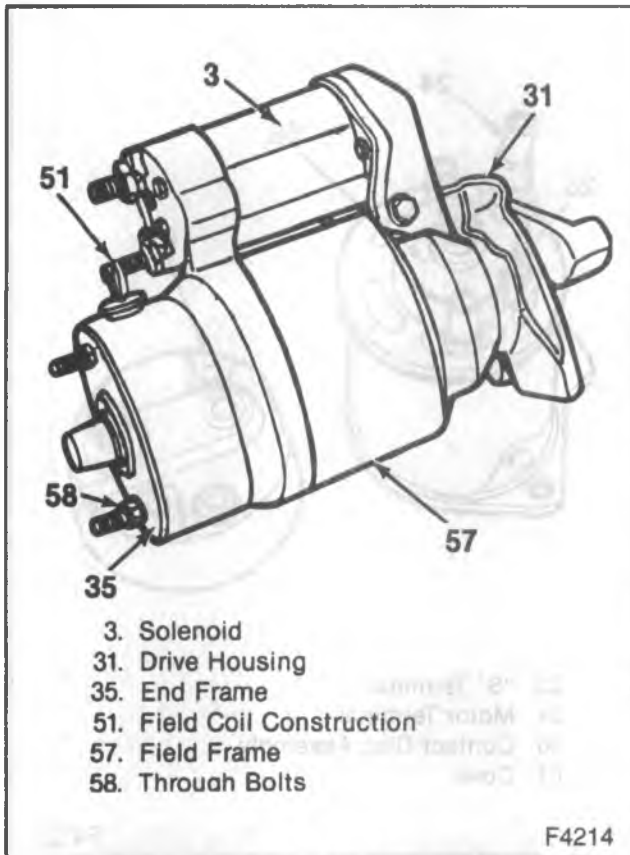
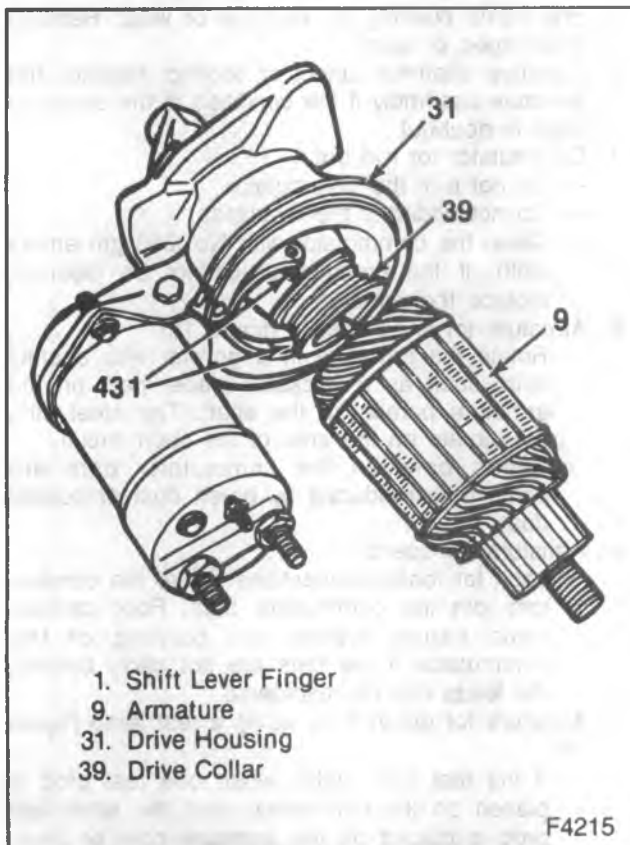

Figure 6—Light Duty Starting Motor
Figure 7—Disengaging the Drive Collar from the Shift Lever Fingers
- Field coil strap (51) from the solenoid motor terminal (figure 6)
- Through bolts (35).
- End frame (41).
- Washer (34) from the commutator end of the armature shaft (SD-300).
- Field frame (41) from the drive housing (31) and the armature assembly (9).
- Armature from the drive housing by tilting the armature to disengage the shift lever fingers (1) from the drive collar (32) (figure 7).